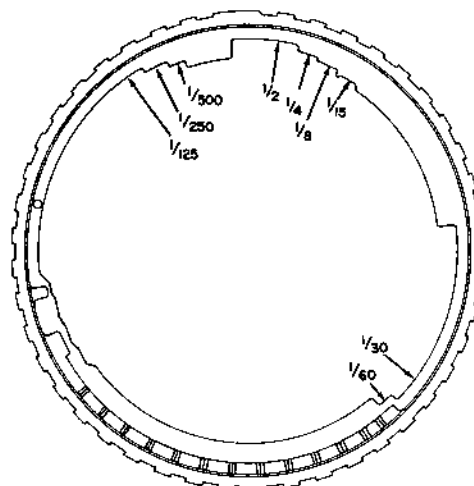

Figure 20.
- Slow - Change to lighter weight or pallet. If speeds have not been brought within tolerance after the initial adjustment, make the following adjustment to the timing cam assembly (Figure 20).